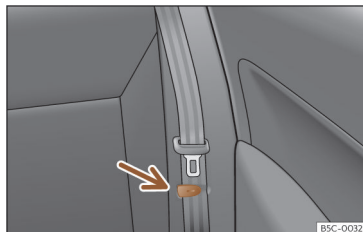

Fig. 96 Rear seat: clip to hold the seatbelt in place.
- Place the side seat belts in the trim clip >>> **Fig. 96**.